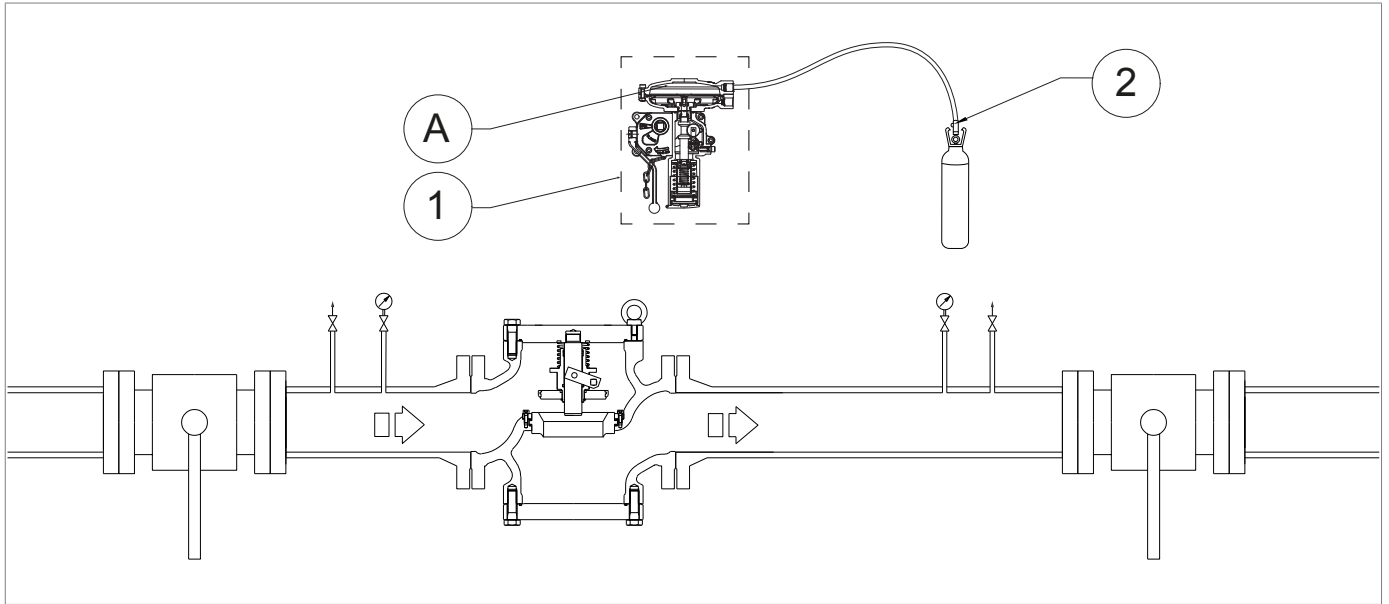

Fig. 8.11. *Pressurisation with external pressure source*
1	<p>! NOTICE!</p> <p>Check the pressure referring to the downstream pressure gauge (Fig. 8.11, ref. 5).</p> <p>If the slam-shut valve:</p> <ul style="list-style-type: none"> trips before the expected pressure value: screw in (clockwise) the adjustment ring nut (13) so as to further compress the spring (11); does not trip at the expected pressure value: unscrew (anti-clockwise) the adjustment ring nut (13) so as to relieve the spring (11).
2	Decrease the pressure in the pressure switch head using the drain cock (3) of the external source or the drain cock (Fig. 8.11, ref. 6)
1	Partially open the bleed cock (Fig. 8.11, ref. 6) and keep it open for the next steps.
2	<p>Decrease the downstream pressure to the minimum required slam-shut valve pressure.</p> <div style="border: 1px solid blue; padding: 5px;"> <p>! NOTICE!</p> <p>Check the pressure referring to the downstream pressure gauge (Fig. 8.11, ref. 5).</p> <p>If the slam-shut valve:</p> <ul style="list-style-type: none"> • trips before the expected pressure value: unscrew (anti-clockwise) the adjustment ring nut (15) so as to relieve the spring (17); • does not trip before the expected pressure value, screw in (clockwise) the adjustment ring nut (15) so as to further compress the spring (17). </div>
3	Close the bleed cock (Fig. 8.11, ref. 6).
1	<p>NOTICE!</p> <p>Check the pressure referring to the pressure gauge (Fig. 8.11 ref. 5) downstream of the main regulator.</p> <p>If the slam-shut valve:</p> <ul style="list-style-type: none"> trips before the expected pressure value: screw in (clockwise) the adjustment ring nut (13) so as to further compress the spring (11); does not trip at the expected pressure value: unscrew (anti-clockwise) the adjustment ring nut (13) so as to relieve the spring (11).
2	By opening the vent (Fig. 8.11, ref. 6), decrease the pressure in the downstream section to the calibration value of the main regulator.
3	Close the air vent valve (Fig. 8.11, ref. 6).
2	<p>Decrease the downstream pressure to the minimum required slam-shut valve pressure.</p> <div style="border: 1px solid black; padding: 5px;"> <p>! NOTICE!</p> <p>Check the pressure referring to the downstream pressure gauge (Fig. 8.11, ref. 5).</p> <p>If the slam-shut valve:</p> <ul style="list-style-type: none"> • trips before the expected pressure value: unscrew (anti-clockwise) the adjustment ring nut (15) so as to relieve the spring (17); • does not trip before the expected pressure value, screw in (clockwise) the adjustment ring nut (15) so as to further compress the spring (17). </div>